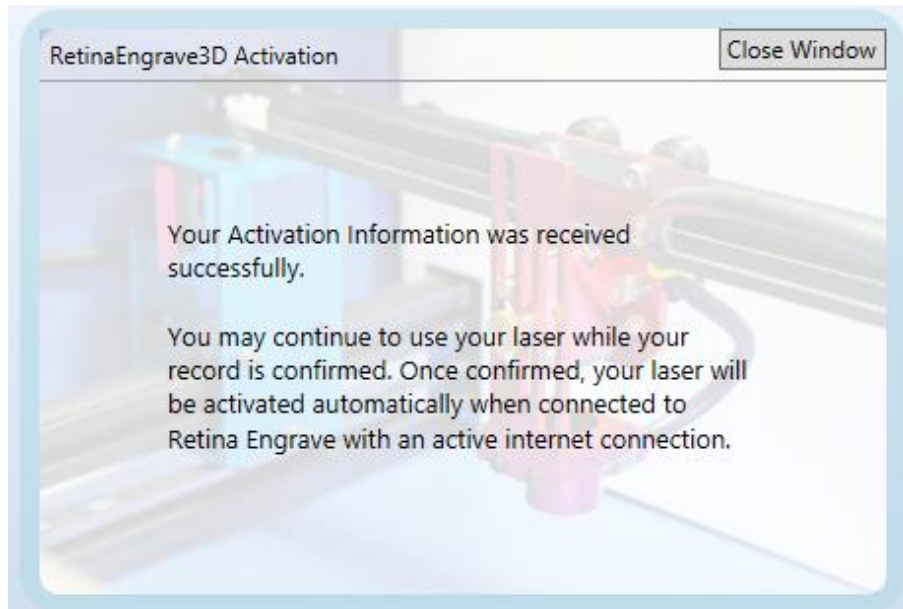

Figure 8 - Validation Information Receipt Acknowledgment
11. Once your information has been received, you will see the popup in Figure 8 .